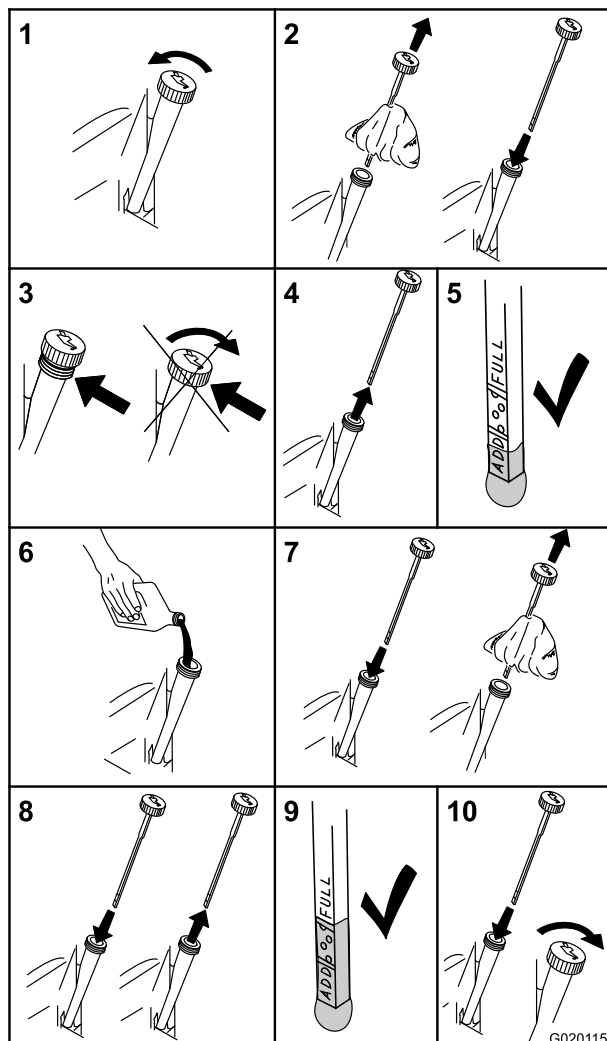

Figure 30
4. Stop the engine, remove the key, and wait for all moving parts to stop before leaving the operating position (Figure 30).